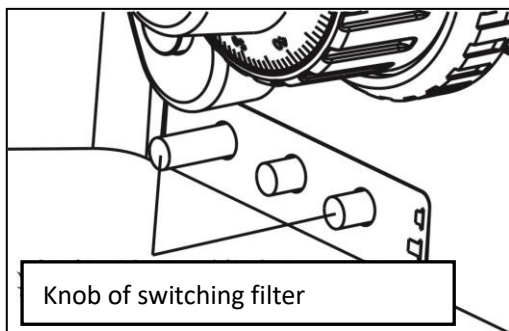

Fig 13
3-11 Using Frosted Sheet(figure 13)
As shown in figure 13, the state of using filter is push in the rod. When push out the rod, filter is in an empty state. LBD is a filter of increasing color temperature.
As shown in fig13, converter reserves a slot to hold the extensional function board. The ordinary light field board has been inset the slot before The lens of microscope leaving factory. If using other extensional function board, only need to tear down and loosen ②, pull out the standard light field board, then inset the extensional function board into the slot and freeze the bolt of ② .